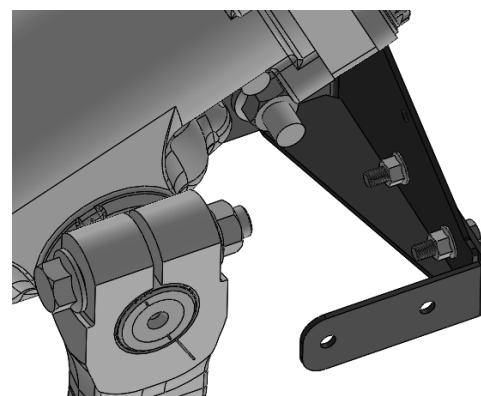

Figure 36. Steering Sensor Bracket Installed.
3. Attach the Steering Mount with 2 5/16" fasteners. As shown in Figure 36. **Torque to 14-17 ft-lbs.**